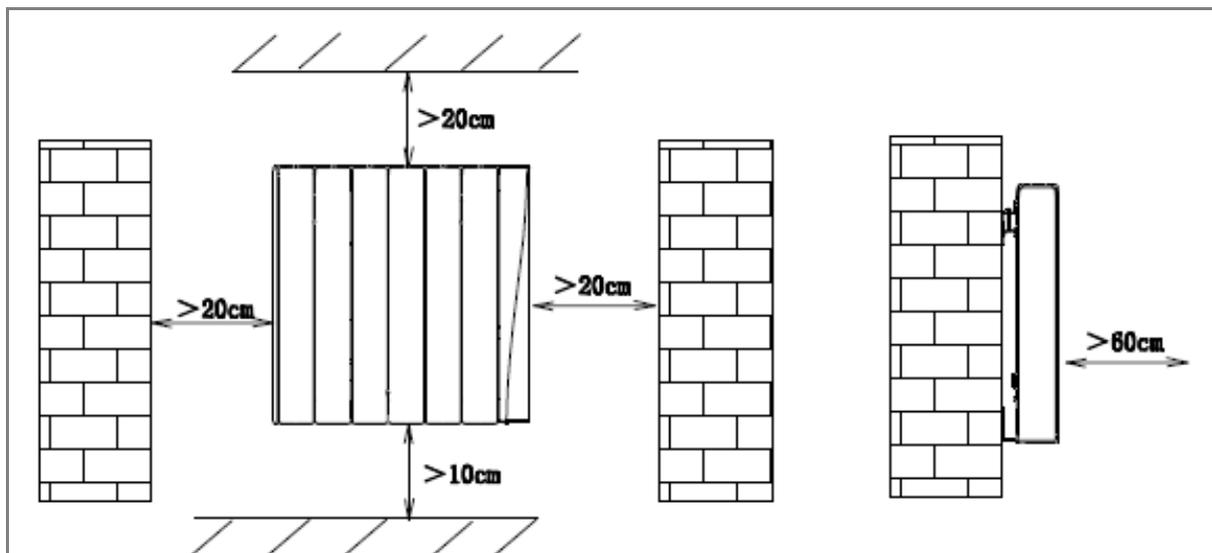

Figure 2 | Minimum distances from radiator to other objects
1. Choose the mounting position, respecting the minimum distances from surrounding walls, ceilings or fixed objects shown in **Figure 2** below: at least 20cm from the top, 20cm from the sides, 10cm from the floor, and 60cm from the front. Mounting closer than recommended can cause overheating of the device and damage to surrounding objects and surfaces.